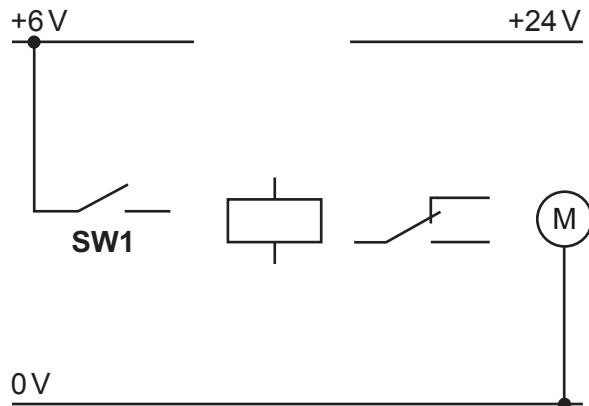

Fig. 12.4
- (b) Fig. 12.4 shows part of a relay circuit that uses a low voltage circuit to control a higher voltage.